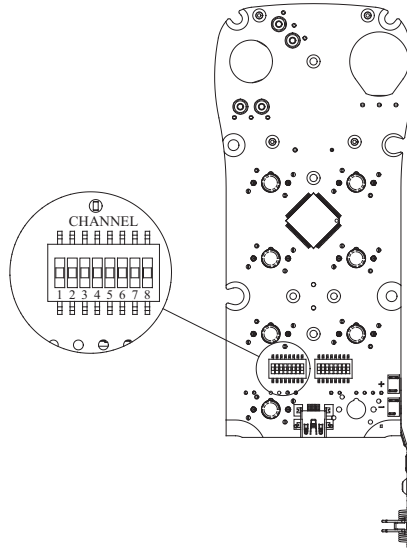
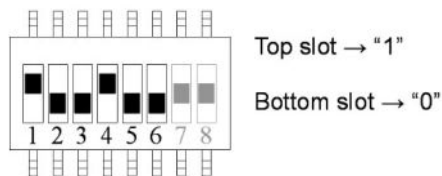

Fig. 7
Fig. 8
Set the transmitter channel by adjusting the channel dipswitch located on the backside of the transmitter encoder board (see Fig. 7). Only the first six (6) positions are used for channel programming (see Fig. 8). The system channels table in Section 5 on page 47 illustrates which dipswitch setting corresponds to which channel. Once the transmitter channel is altered, be sure to change the receiver channel as well. The channel on both the transmitter and receiver must be identical in order for the system to work. To change the receiver channel, see Section 4.2.1 on page 34.